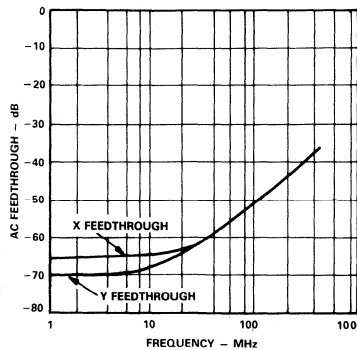

Figure 2. AC Feedthrough vs. Frequency
**Figure 2.** For frequencies below 1MHz, ac feedthrough is dominated by static nonlinearities in the transfer function and the finite offset voltages. The offset voltages cause a small fraction of the fundamental to appear at the output, and can be nulled out.